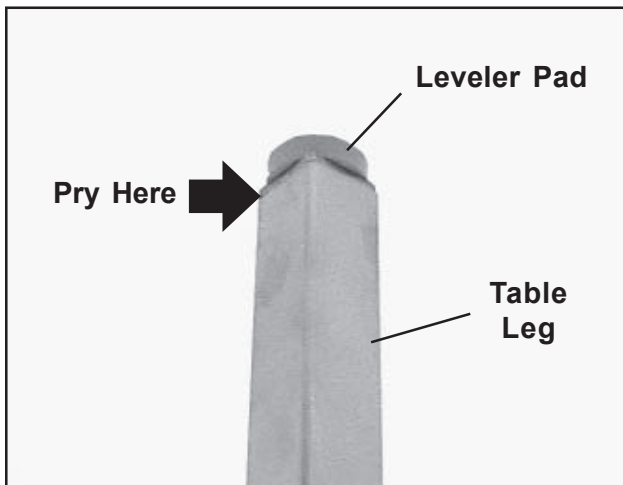

Figure 30. Removing Leveler From Leg
3. With a small flat-blade screwdriver, pry the leveler assembly a short distance out of the table leg (Figure 30). Then, with a regular flat-blade screwdriver, pry the leveler assembly the rest of the way out until you can remove it by hand.